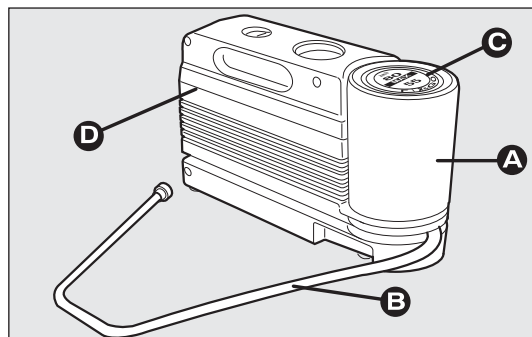

fig. 156
The kit fig. 156 includes:
- ☐ compressor D-fig. 156 including gauge and connections;